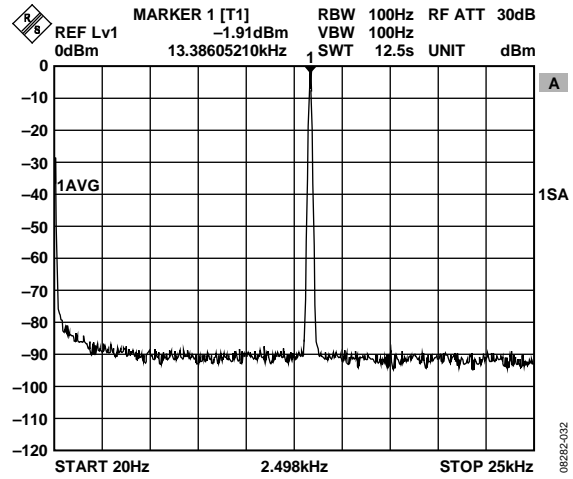

Figure 19. Typical Spectrum Analyzer Display of CWD Output
- An example of the CW Doppler output, as shown in Figure 19 and Figure 20, can be seen in the frequency and time domain, respectively. Make sure to set the analog input level appropriately to achieve full scale throughout the signal chain.